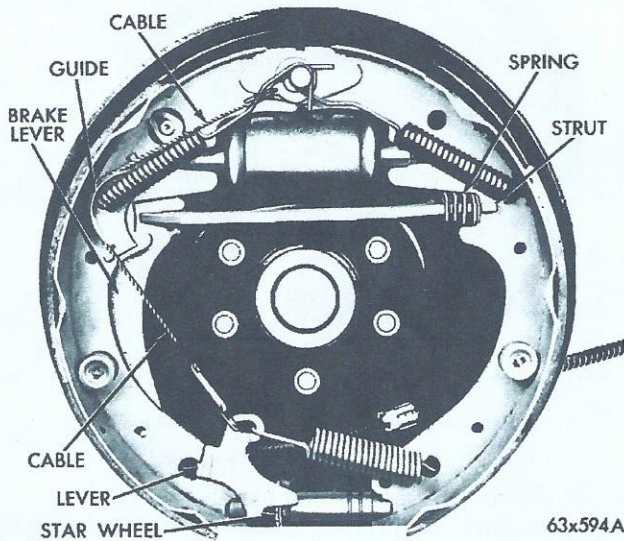

Fig. 8—Brake Assembly (rear)
(3) Remove the brake shoe retainer, spring and pins (Fig. 8).